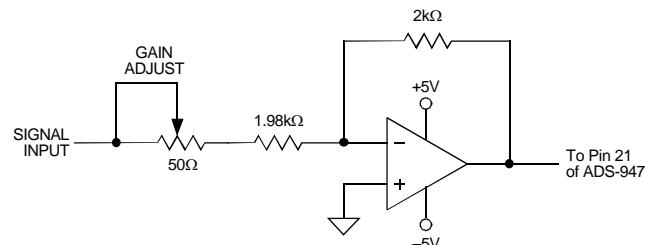

Figure 2. Optional ADS-947 Gain Adjust Calibration Circuit
- The ADS-947 achieves its specified accuracies without the need for external calibration. If required, the device's small initial offset and gain errors can be reduced to zero using the adjustment circuitry shown in Figures 2 and 3. When using this circuitry, or any similar offset and gain calibration hardware, make adjustments following warmup. To avoid interaction, always adjust offset before gain.
Any offset and/or gain calibration procedures should not be implemented until devices are fully warmed up. To avoid interaction, offset must be adjusted before gain. The ranges of adjustment for the circuits in Figures 2 and 3 are guaranteed to compensate for the ADS-947's initial accuracy errors and may not be able to compensate for additional system errors.